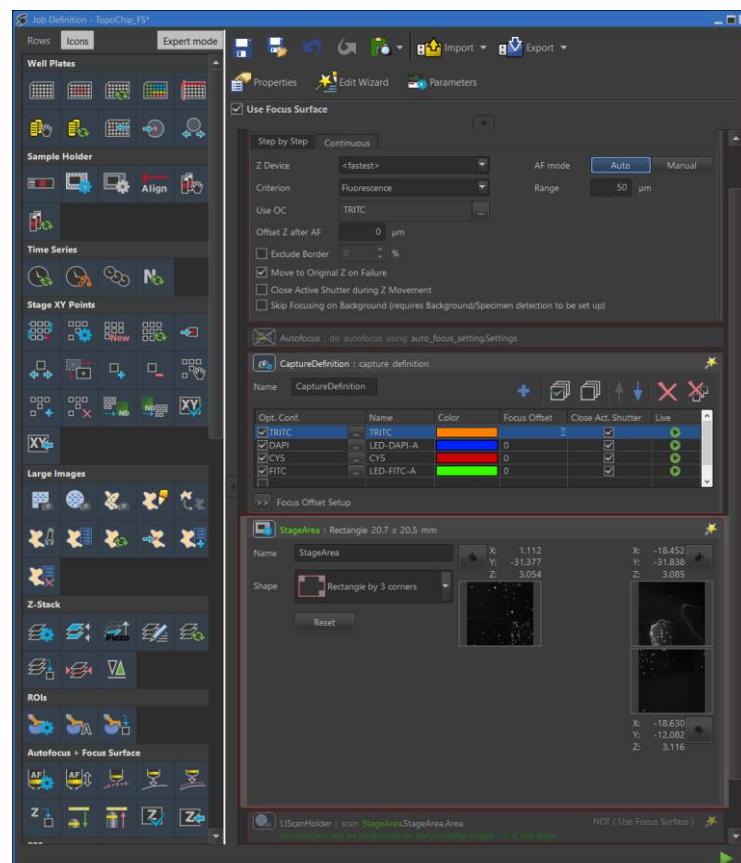

Figure 4: Definition of each module in the Jobs protocol
13. The first module defined in the jobs protocol is the *Auto focus settings* which you can see in Figure 4
14. The next module is the *capture definition* where channels to be imaged can be defined, which depends on your staining protocol. For instance: we have defined to image the sample with DAPI for nuclei and TRITC for cell cytoskeleton and FITC for M1 macrophage and cy5 for M2 macrophage in the figure 4 below.